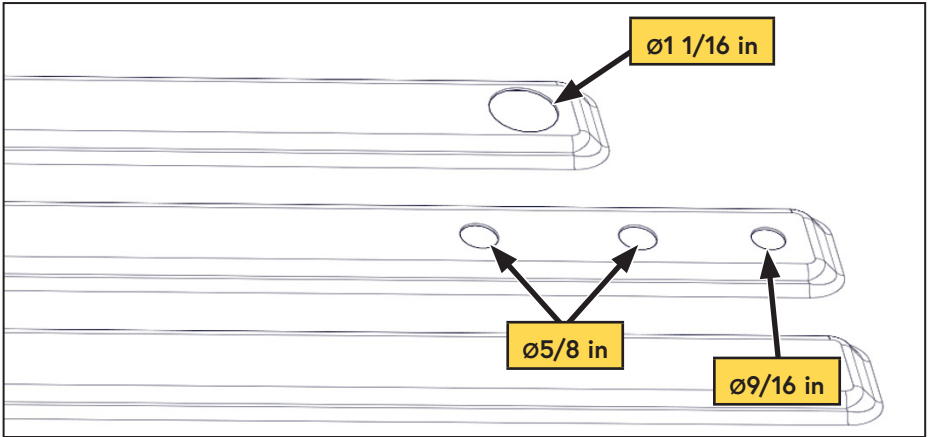
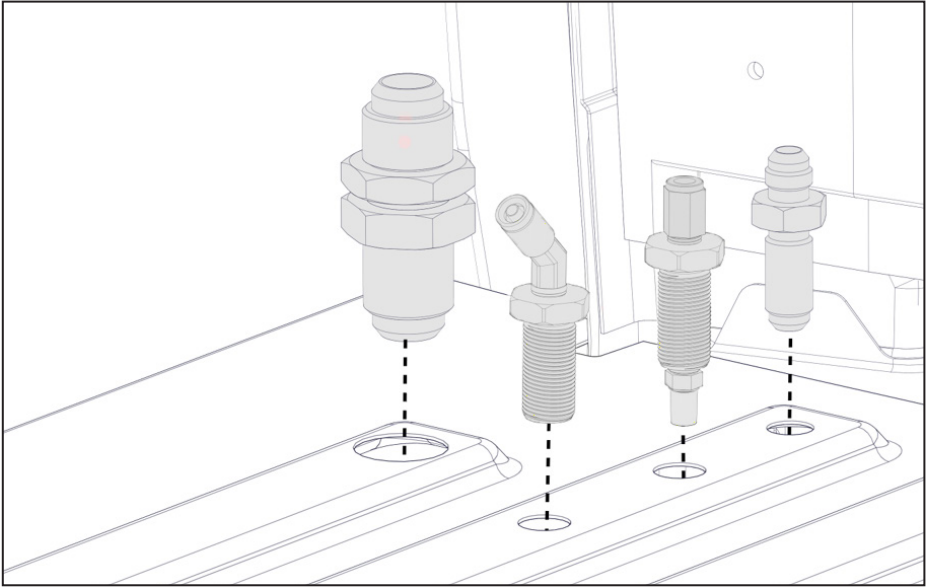
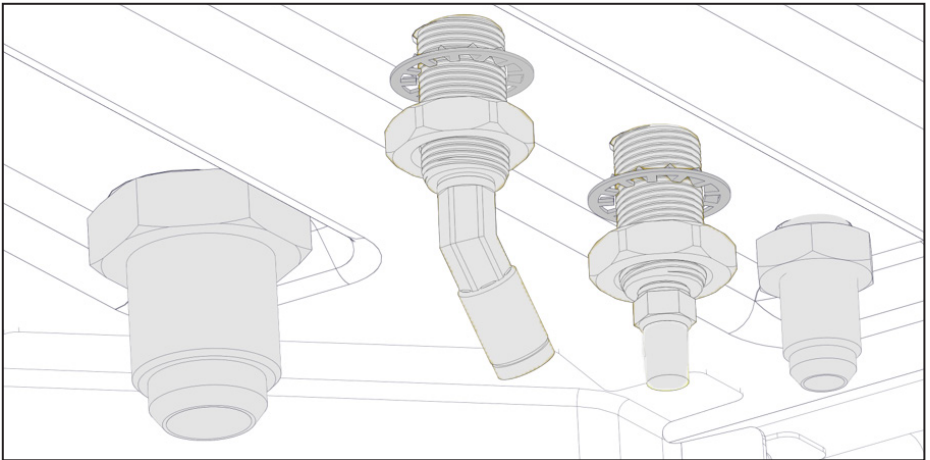

Figure 26 — Bulkhead fitting location
Figure 27 — Interior view
Figure 28 — Exterior View
- Drill the bulkhead fitting holes using a drill, step drill or hole saw. Leave enough room between the fittings to allow access for a wrench (Figure 26, Figure 27 Figure 28).
- Fit the bulkhead fittings through the top of the hole and secure from the bottom with the supplied nuts. Apply Loctite 567 (thread sealant) when installing the 1/4 in push-to-connect fittings in the bulkhead fittings (Figure 27 and Figure 28).